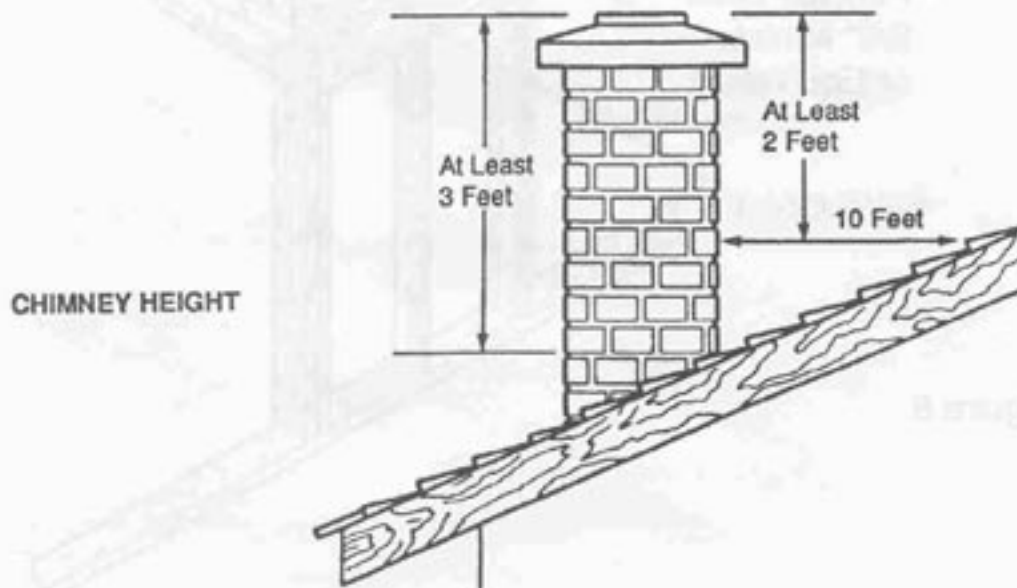

Figure 7
- A chimney must be the required height above the roof or other obstruction for safety and for proper draft operation. The requirement is that the chimney must be at least 3 feet higher than the highest point where it passes through the roof and at least 2 feet higher than the highest part of the roof or structure that is within 10 feet of the chimney, measured horizontally (FIGURE 7).